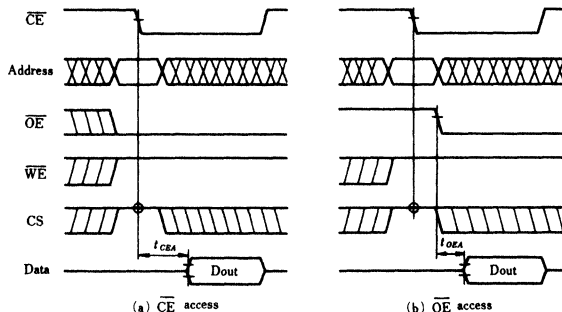
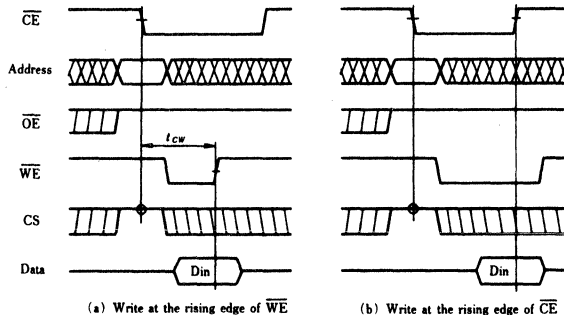

Figure 2-3. Read Cycle
Figure 2-4. Write Cycle
**Read/Write Cycle:** Figure 2-3 and figure 2-4 show the timing chart for the read/write cycle of 1 Mbit pseudo-static RAM HM658128. The HM658128
can perform 2 types of access in a read cycle,  $\overline{CE}$  access (Figure 2-3 (a)) and  $\overline{OE}$  access figure 2-3 (b)). It writes the data at the rising edge of  $\overline{WE}$  (figure 2-4 (a)) or at the rising edge of  $\overline{CE}$  (figure 2-4 (b)). The  $\overline{CS}$  pin should be brought high when the address is latched at the falling edge of  $\overline{CE}$  in the read/write cycle. The HM658128 has no  $\overline{OE}$  specification at the falling edge of  $\overline{CE}$  as it provides both  $\overline{OE}$  pin and  $\overline{RFSH}$  pin.